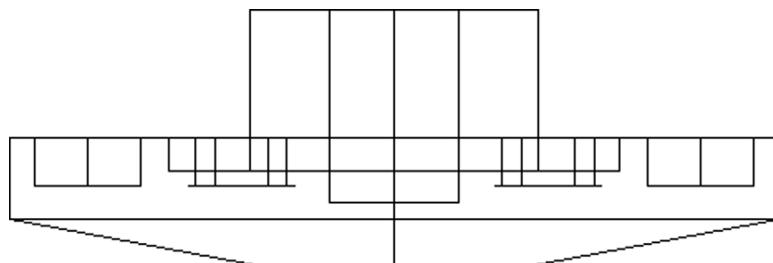

FIGURE 27.19 Flatten results.
Step 3. You can pick yes or no. In this example, we keep the hidden lines. Press Enter. The flattened 2D model appears as seen in Fig. 27.19.